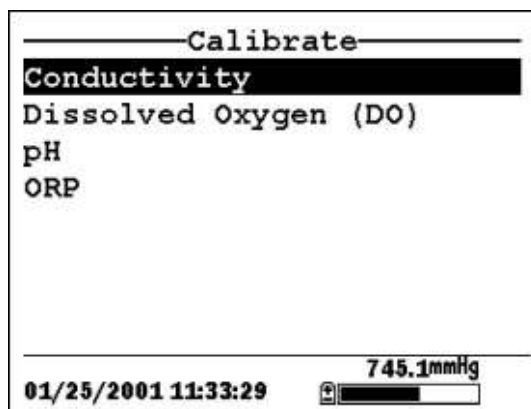

Figure 6.2 Calibrate Screen
2. Use the arrow keys to highlight the **Conductivity** selection. See Figure 6.2 Calibrate Screen.
15. Press **Escape** to return to the calibrate menu. See Figure 6.2 Calibrate Screen .
2. Use the arrow keys to highlight the **Dissolved Oxygen** selection. See Figure 6.2 Calibrate Screen.
11. Press **Escape** to return to the calibrate menu. See Figure 6.2 Calibrate Screen.
- 11.** Press **Escape** to return to the calibrate menu. See Figure 6.2 Calibrate Screen.
- 2.** Use the arrow keys to highlight the **pH** selection. See Figure 6.2 Calibrate Screen.